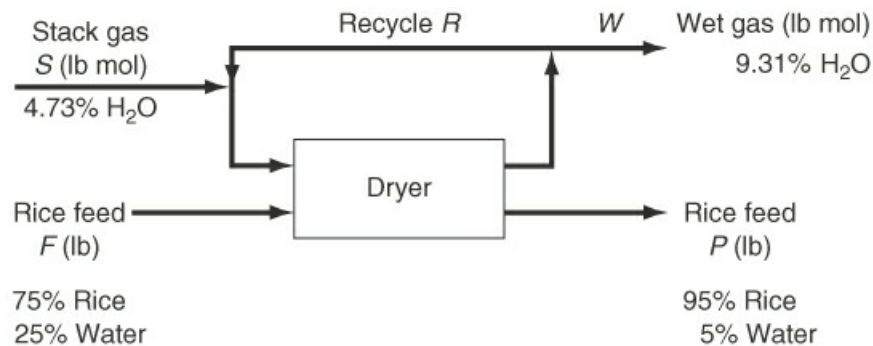

Figure P5.3.16
***5.3.16 To save energy, stack gas from a furnace is used to dry rice. The flowsheet and known data are shown in Figure P5.3.16. What is the amount of recycle gas (in pound moles) per 100 lb of P if the concentration of water in the gas stream entering the dryer is 5.20%?